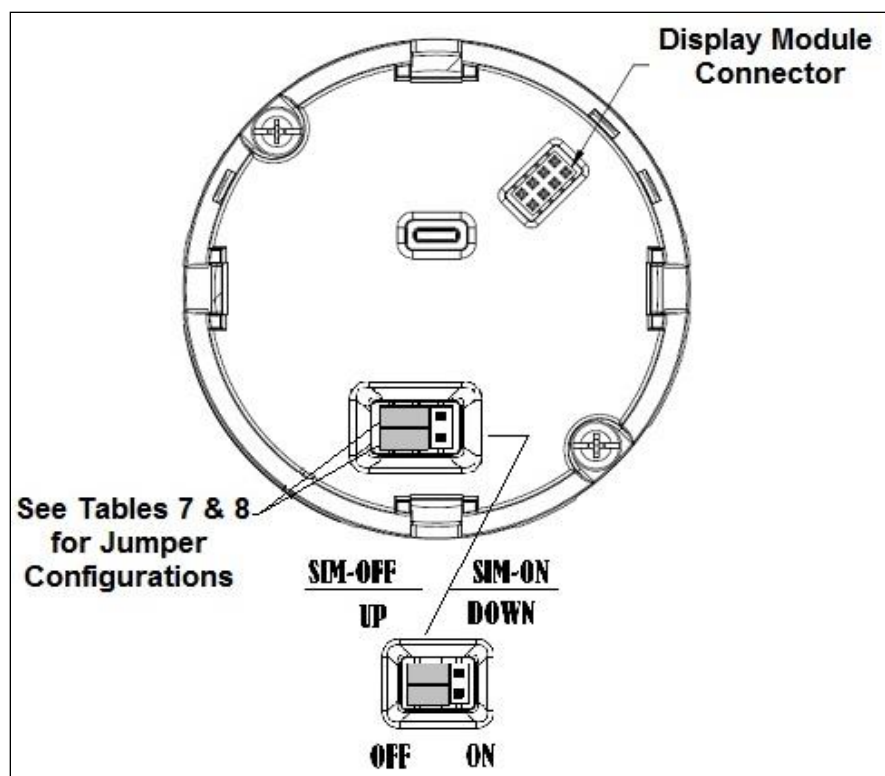

Figure 22 – Locating the Failsafe and Write Protect Jumpers
The following procedure outlines the steps for positioning the write protect and failsafe jumpers on the electronics module. See Figure 22 for the locations of the failsafe and write protect jumpers.
5. Set the Failsafe Jumper (top jumper) to the desired position (UP or DOWN). See Table 13 and Figure 22 for jumper positioning.